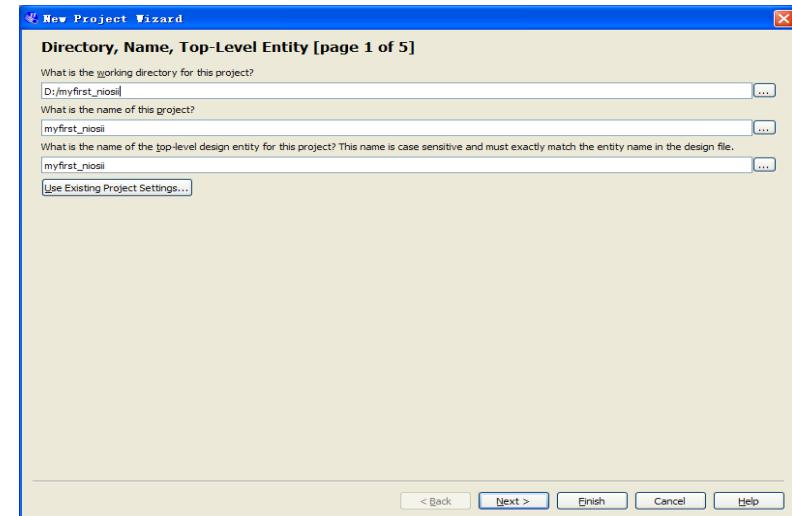
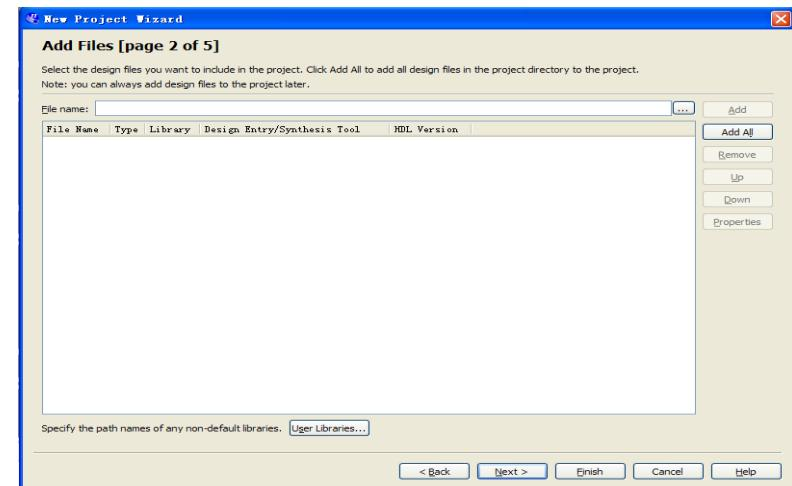

Figure 7-3 Input the working directory, the name of project, top-level design entity
Figure 7-4 New Project Wizard: Add Files [page 2 of 5]
2. Select a working directory for this project, type project name and top-level entity name as shown in Figure 7-3. Then click **Next**, you will see a window as shown in Figure 7-4.